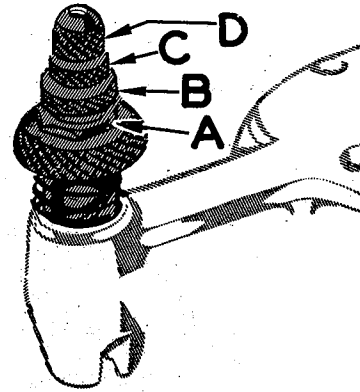

Fig. 3
Sufficient pressure to feed the work uniformly should be maintained. Should it be necessary to increase or decrease amount of pressure on presser foot, loosen lock nut (A, Fig. 3), and turn adjusting screw (B). Adjusting screw has a right hand thread; tightening will increase pressure, loosening decreases the pressure. When pressure adjusting screw (B) has been properly set, tighten the lock nut (A). With presser foot resting on throat plate, position locking nut (C) so that its under surface is approximately 1/32 inch to 1/16 inch from the top surface of the adjusting screw (B). Set cap (D) against locking nut (C).